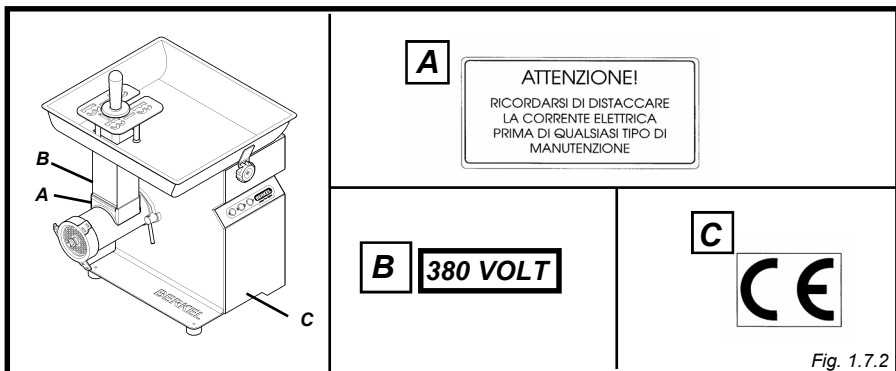

Fig. 1.7.2
Warning and danger plates (fig. 1.7.2)
1.7.1 - Danger and warning plates (fig. 1.7.2)